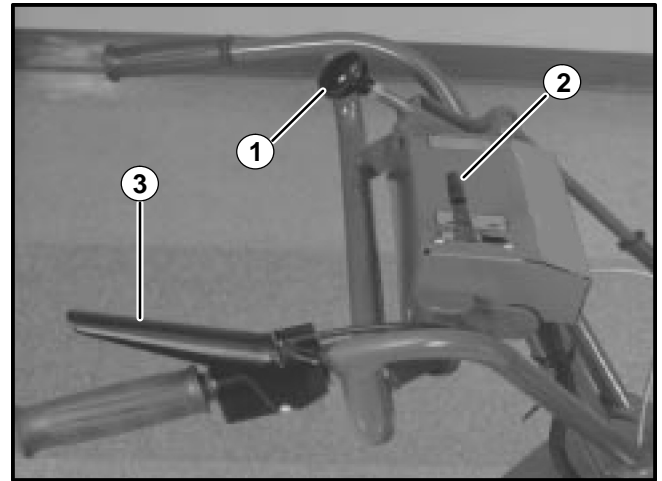

FIGURE 18
Clutch Control Lever	Engages or releases drive belt and applies brake action to drive belt when pulled FIRMLY to rear. See Figure 18, item 1.
Throttle Control	Speeds up or slows down engine. See Figure 18, item 2.
Operator Presence Control	With clutch control engaged, engine will stop if operator presence lever is not depressed. See Figure 18, item 3.